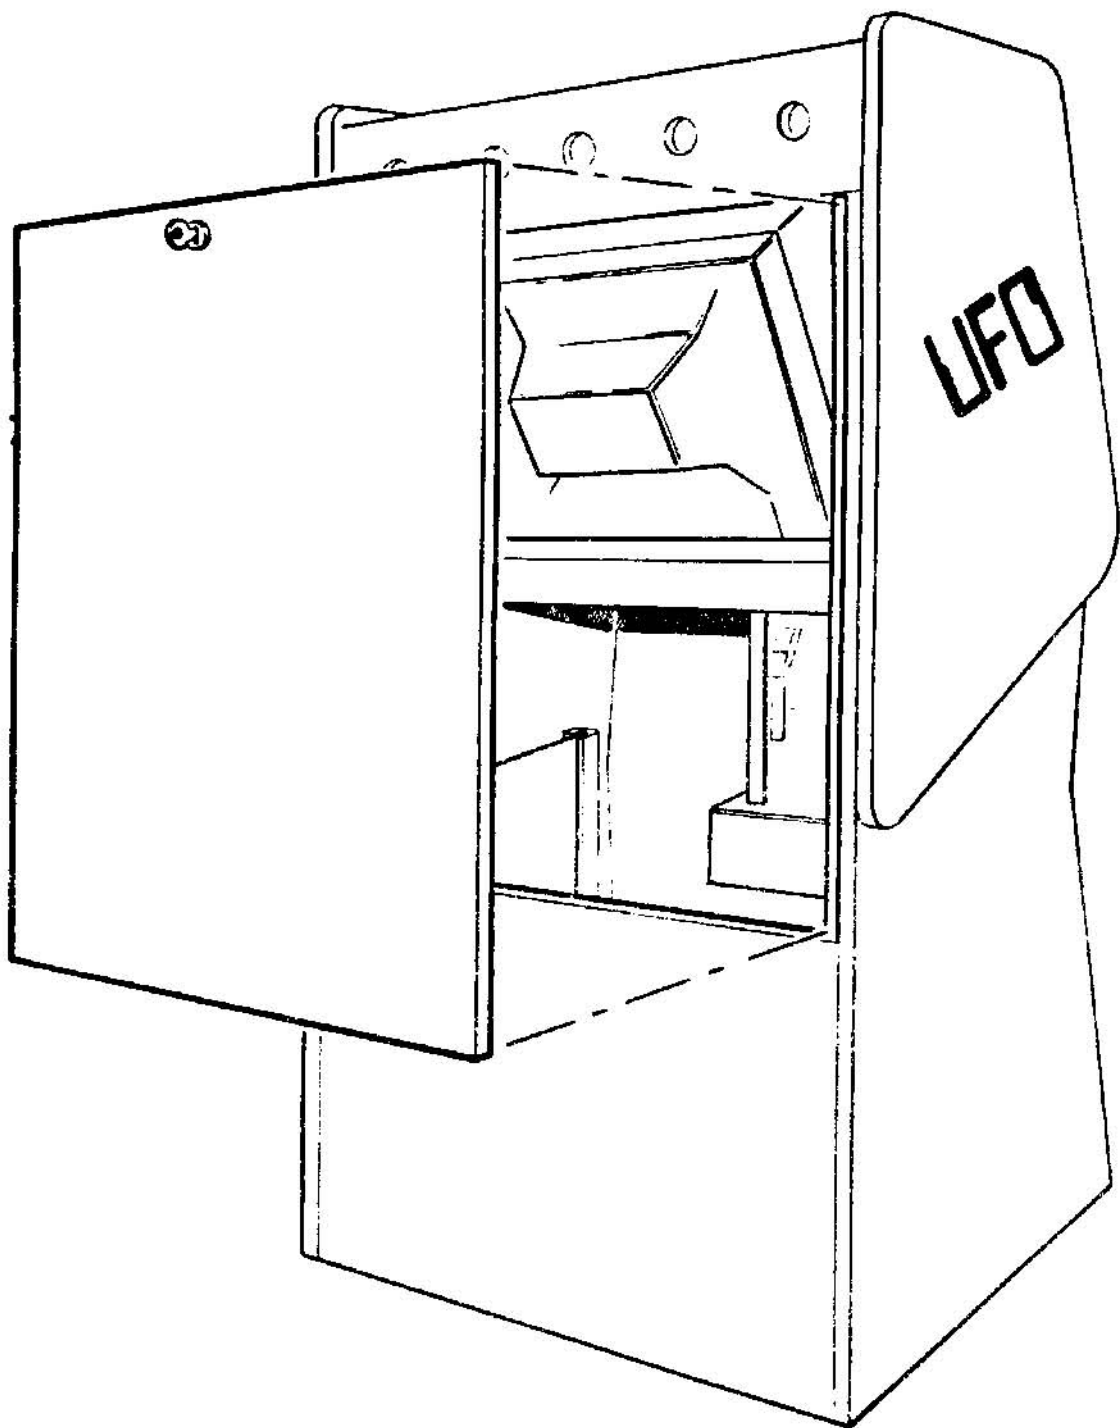

FIGURE 1
- . Access into the back of the Cabinet is gained by removal of the Back Door (Refer to Figure 1); the key for this door is in the Instruction Manual Envelope. The Monitor Adjustments, the type EG-1010 Logic Board, the type PS-3 Power Supply Board, the AC Power Supply, and the Sound Simulator Chassis may be reached by removal of the Back Door.
- . Remove the Back Door (See Figure 1).